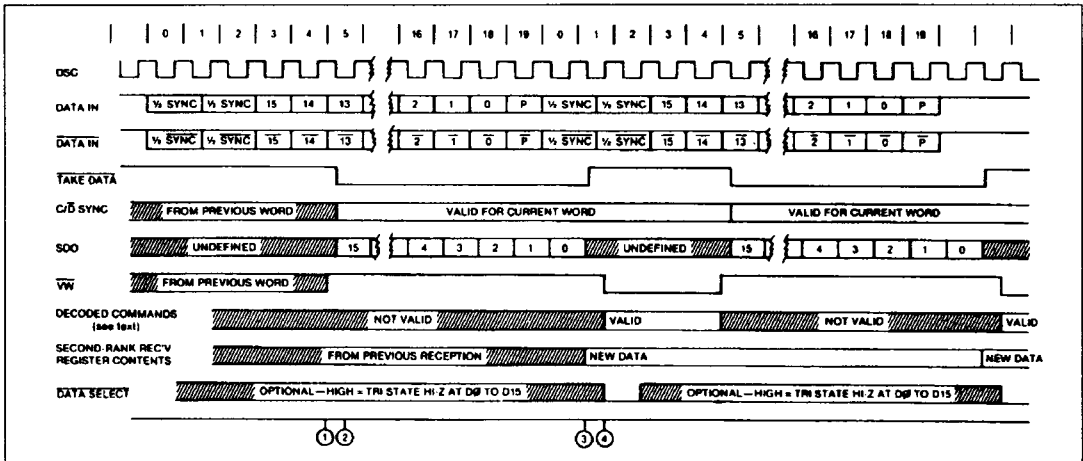

Figure 5: Receive Cycle Timing
DECODER SHIFT CLOCK (DSC) (see Figure 5) operates at the data rate (1MHz). When the DECODER recognises a valid sync and two valid Manchester data bits ①, a receive cycle is initiated. The new sync is indicated at the COMMAND/DATA SYNC (C/D SYNC) output and the TAKE DATA output goes low ②. The C/D sync output will remain in its valid state until a new sync is detected on a subsequent word or until DECODER RESET (DEC RST) or MRST goes low. A low at DEC RST or MRST causes C/D SYNC to go low.